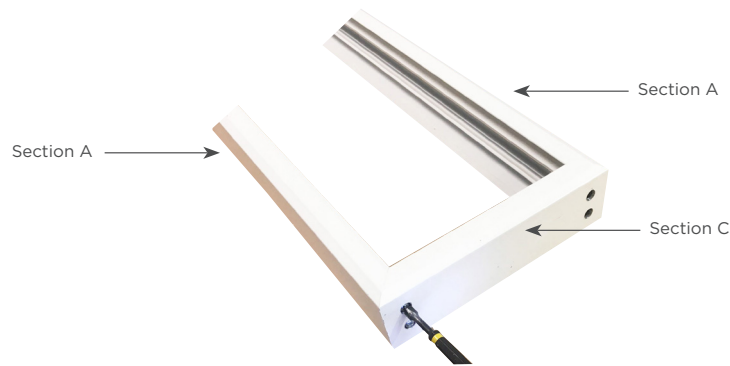

Figure 2
- As shown in Figure 2, install section C to section A using the provided sheet metal screws. Using a #2 Phillips screwdriver, loosely set all four screws. Then use a #2 Phillips impact driver to tighten each screw evenly until all mitered corners align.